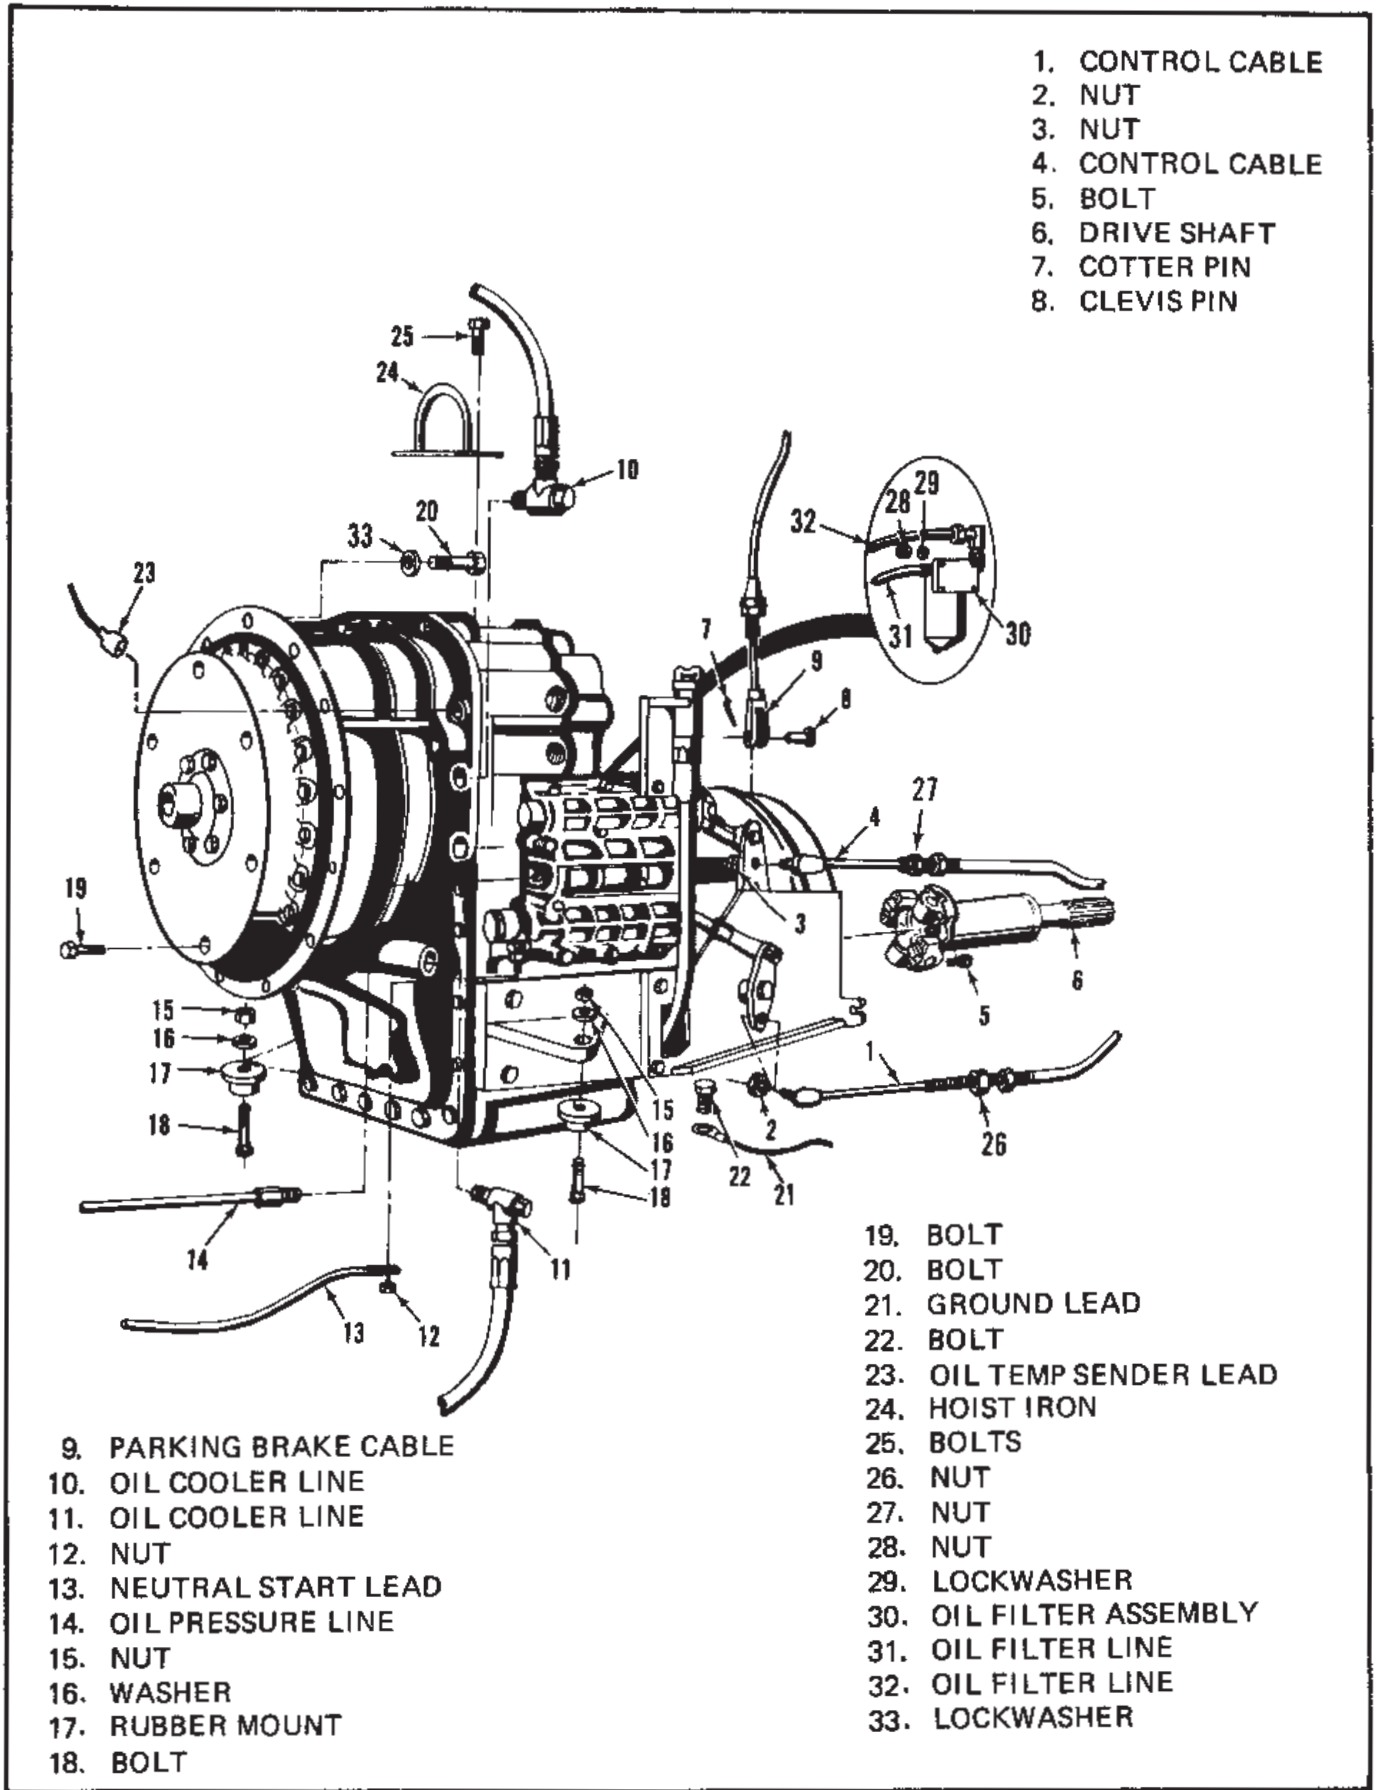

Figure 09-1. Disconnecting the Transmission
The following outlines the procedures for removal of the TRT transmission from a machine that has been in operation. The disconnecting procedures need not be performed in the following order, however, all tasks pertaining to disconnection must be performed prior to removing the transmission from the frame. Refer to Figure 09-1 for identification and location of parts.
DISCONNECTING THE TRANSMISSION (Figure 09-1)
10. Remove bolt (22) (Figure 09-1) to disconnect ground lead.